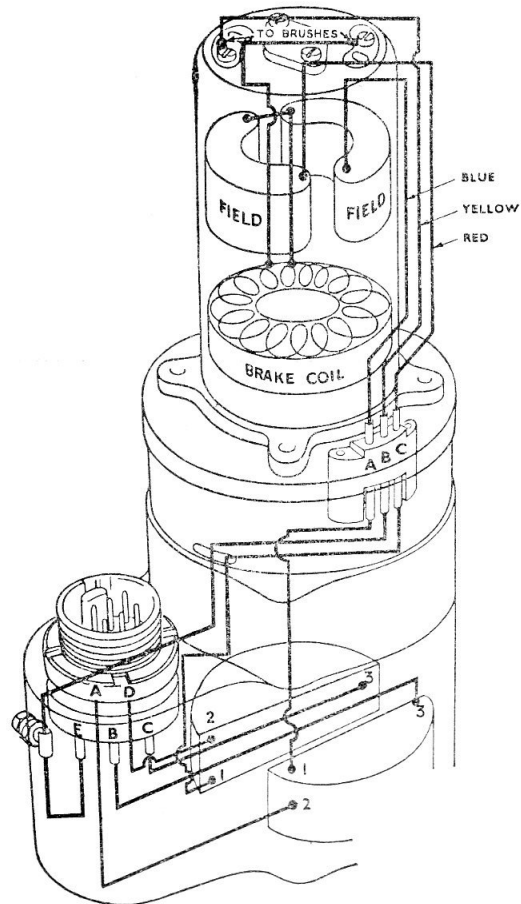

Fig. 4. Schematic wiring diagram
12. The wiring arrangements are shown (fig. 4). From the limit switches the leads to the motor pass through holes in the walls of the switch housing and actuator body to a terminal block attached to the rear of the actuator body by two screws. The lower half of this block is shrouded by the spigot mounting plate. A letter and number coding system is used for identifying the cable runs.